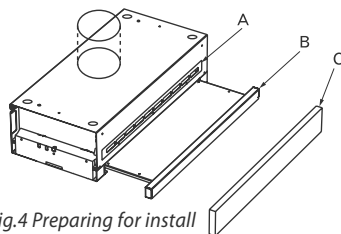

Fig.4 Preparing for install
- 1 Do not remove the knockouts shown in Fig.4. These are removed for ducted options only.
- 2 Remove Cover Tape "A". See Fig.4.
- 3 If a 70 mm handle is not installed (depending on model purchased), remove front handle "B" by undoing the 3 screws on the fascia (see Fig. 4).
1 Remove the appropriate knockout to suit top venting, as shown in Fig.4
- 2 Do not remove Cover Tape "A". See Fig.4. This is removed for recirculating only.